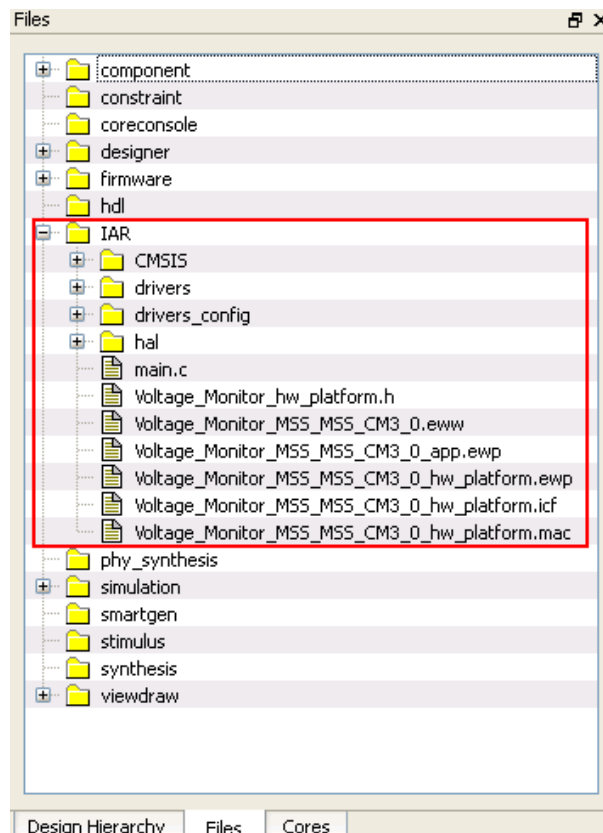

Figure 23 · Files Window
8. Confirm that the IAR folder is created with the folders and files as shown in Figure 23 .